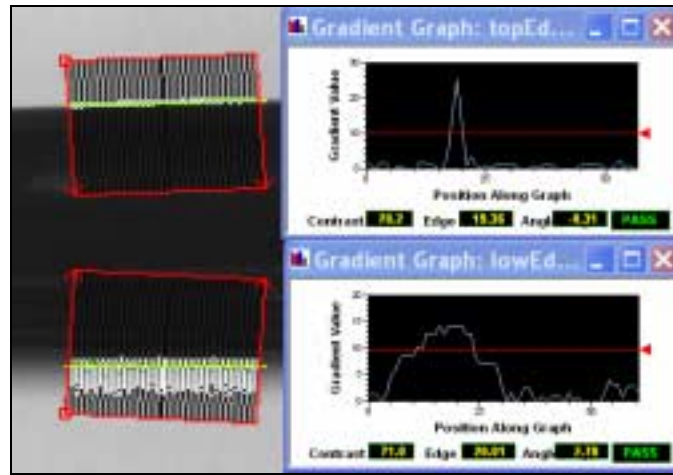

Figure 37: Area Measurement SoftSensors in presence of sharp and fuzzy edges. The gradient graphs indicate the width of the transition.
- Edge Width: This option lets the user indicate how many pixels determine the edge to be used. If the images are not well focused, the edges will not appear as sharp. In those cases the user needs to give the SoftSensor an idea as to how wide the transition is to better calculate edge positions. Figure 37 illustrates more the use of this option. The SoftSensor finding the top edge faces a sharp transition while the one finding the bottom
The line fit SoftSensor (called Area Edge Line SoftSensor) is another area SoftSensor. It works just like the area caliper tool only that it scans in one direction. It consists of many scan lines (a number that the user can specify like in the Measure Across Area SoftSensor). Every scan line intersects the edge of the part being inspected and determines the intersection point. The algorithm then interpolates those points into a straight line which is the output of the SoftSensor. This type of tool is the one shown in Figure 37, Figure 38, and Figure 39.